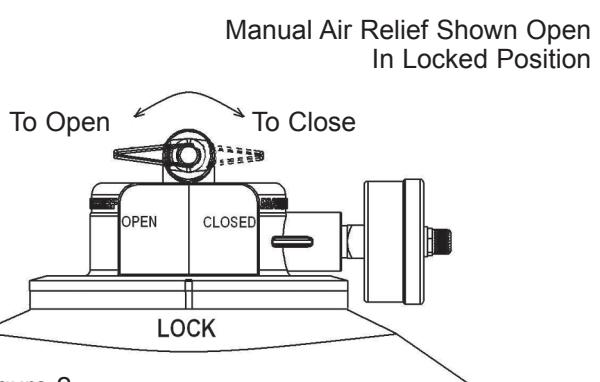

Figure 2
1. Use ONLY Hayward clamp system components; DEX2421JKIT clamp system, DEX2421J2 nut/bolt assembly, DEX2422ZZ metal reinforced seal. Non-Hayward clamp components may fail in use and cause explosive component separation. Verify that upper and lower filter bodies are properly secured with the filter body clamp. Never rely on hand tightening the clamp nut to the clamp bolt. Using a $\frac{3}{4}$ inch socket on a torque wrench, torque clamp nut to clamp bolt to 17 Nm (150 inch-lbs). Verify that the filter manual air relief body is in the **LOCK** position, and no filter components are missing, damaged or not genuine Hayward components. (See Fig 2)
4. Place the manual air relief valve in **OPEN** position. (See Fig 2)
3. The manual air relief valve must be placed in the **OPEN** position. (FIG 2)